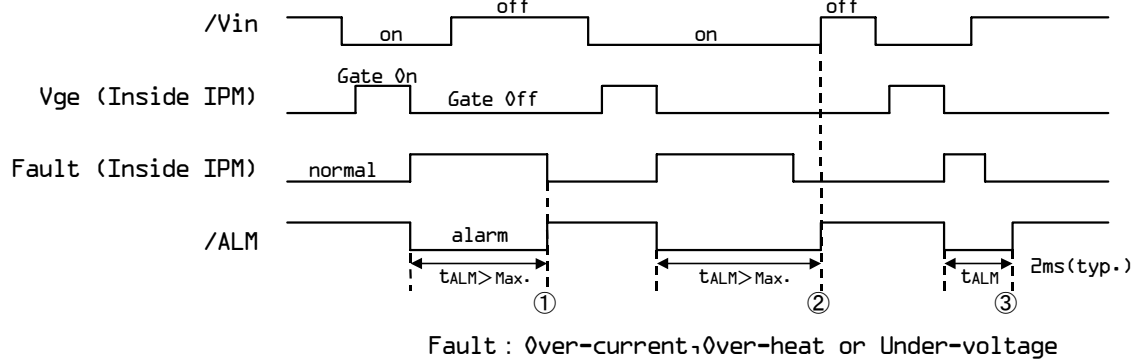

Figure 2. Input/Output Timing Diagram
Necessary conditions for alarm reset (refer to ① to ③ in figure2.)
- ① This represents the case when a failure-causing Fault lasts for a period more than  $t_{ALM}$ .